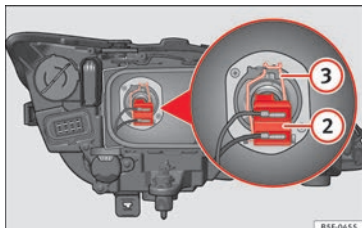

Fig. 104 Dipped beam headlights.
- Remove connector »» Fig. 104 ② from the bulb.
- Unclip the retainer spring »» Fig. 104 ③ pressing inwards to the right.